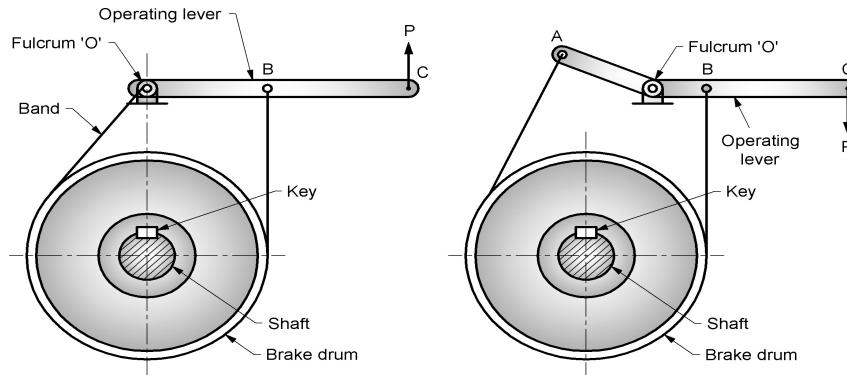

Fig.7.13 Band Brake
- (1) It consists of a flexible band of leather or rope or steel lined with frictional material which holds part of the circumference of the drum.
- (2) A band brake as shown in Fig. 7.13 (a) is called simple band brake in which one end of the band
- (3) When the upward force P is applied to the free end of the lever at C, the lever turns around the fulcrum 'O' and tightens the band on the drum and hence brakes are applied. The friction between the band and the drum provides the braking force.
- (4) In differential band brake, as shown in Fig. 7.13 (b) the ends are attached at a distance on either side of the fulcrum. The lever AOC is pivoted at fulcrum 'O' and two ends of the bands are attached at points A and B.
- (5) Differential band brake provides higher braking torque compared to simple band brake for the same amount of effort ' P '.